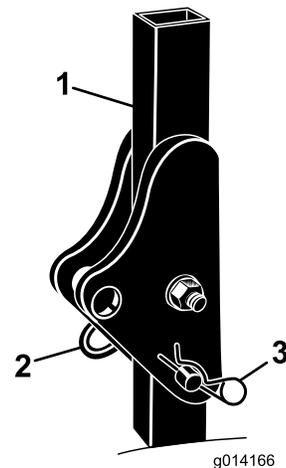

Figure 3
1. Remove the hairpin cotters and the pins from the roll bar (Figure 3).
2. Raise the roll bar to the upright position and install the 2 pins and secure them with the hairpin cotters (Figure 3).